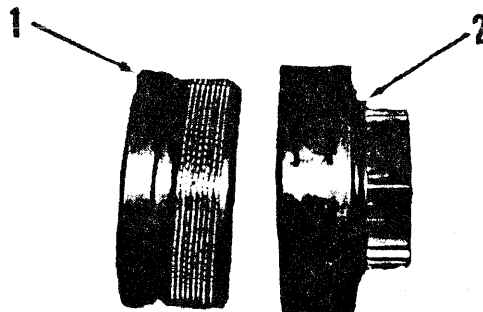

Figure 21
THE HYDRAULIC CLUTCH MUST BE SERVICED IN A CLEAN AREA. The clutch pack contains two parts: The clutch (1), Figure 21, contains friction discs and separator plates, and the clutch spider (2). The two parts are not fastened together and may be separated by sliding them apart as shown. The clutch is held together by six flat head capscrews that are locked on the back side by six allen head set screws.